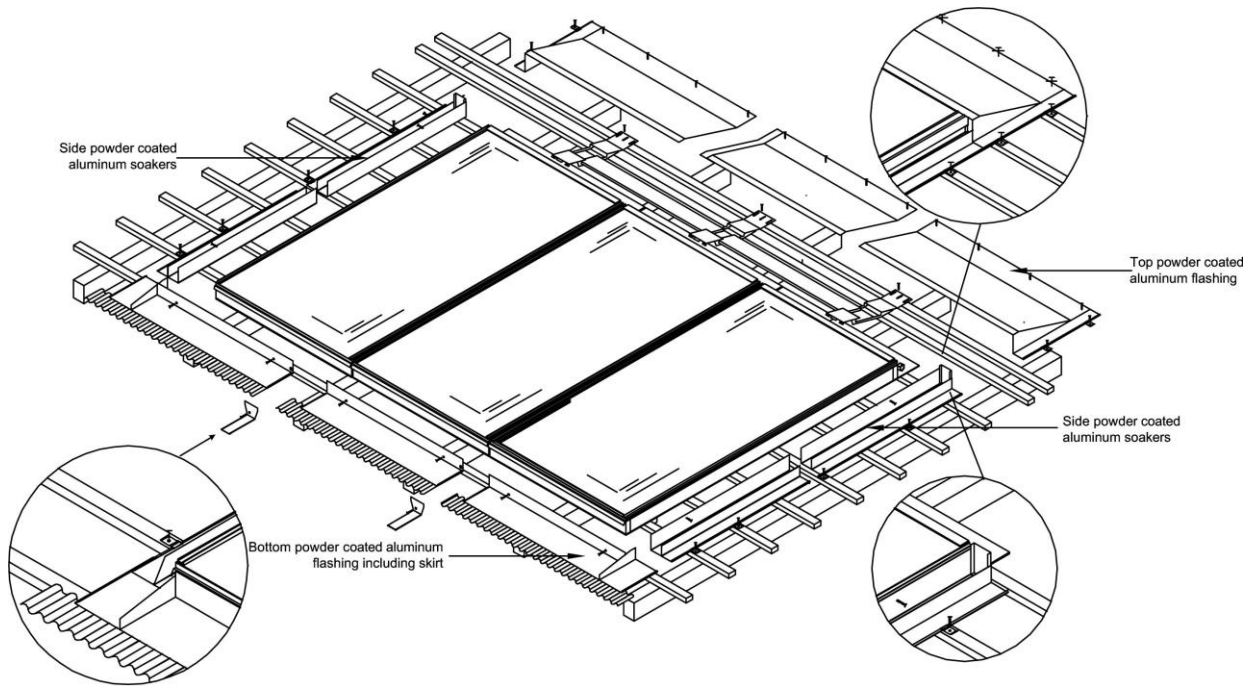

Figure 7: Joule VisSolis Collector - Tile Flashing Detail
- Joule Energy Solutions offer Tile and Slate flashing kits with the Joule VisSolis collectors to suit the roof covering in which the collectors are to be installed. These powder coated aluminium flashing kits, (for use on tiled or slated roofs with an inclination of more than 25°), provide a weatherproof connection between the roof tiles and the solar panels. Stainless steel plumb screws for fixing the flashings to the frame of the collector are supplied with the flashing kit. No additional lead, sealants or fixings are required. Full installation details of the Tile/Slate flashings (for single and multiple collector panels) are included in the Certificate holders installation manual. See Figure 7 and 8.